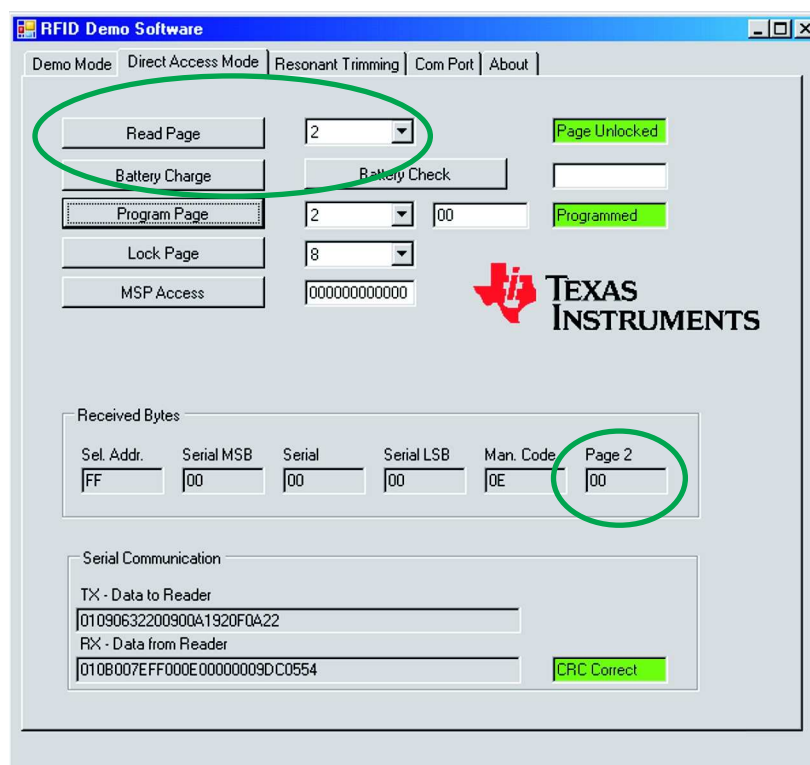

Figure 30. Demo 6 - Program Page 2
1. Program Page 2 with the value 00 (see Figure 30).